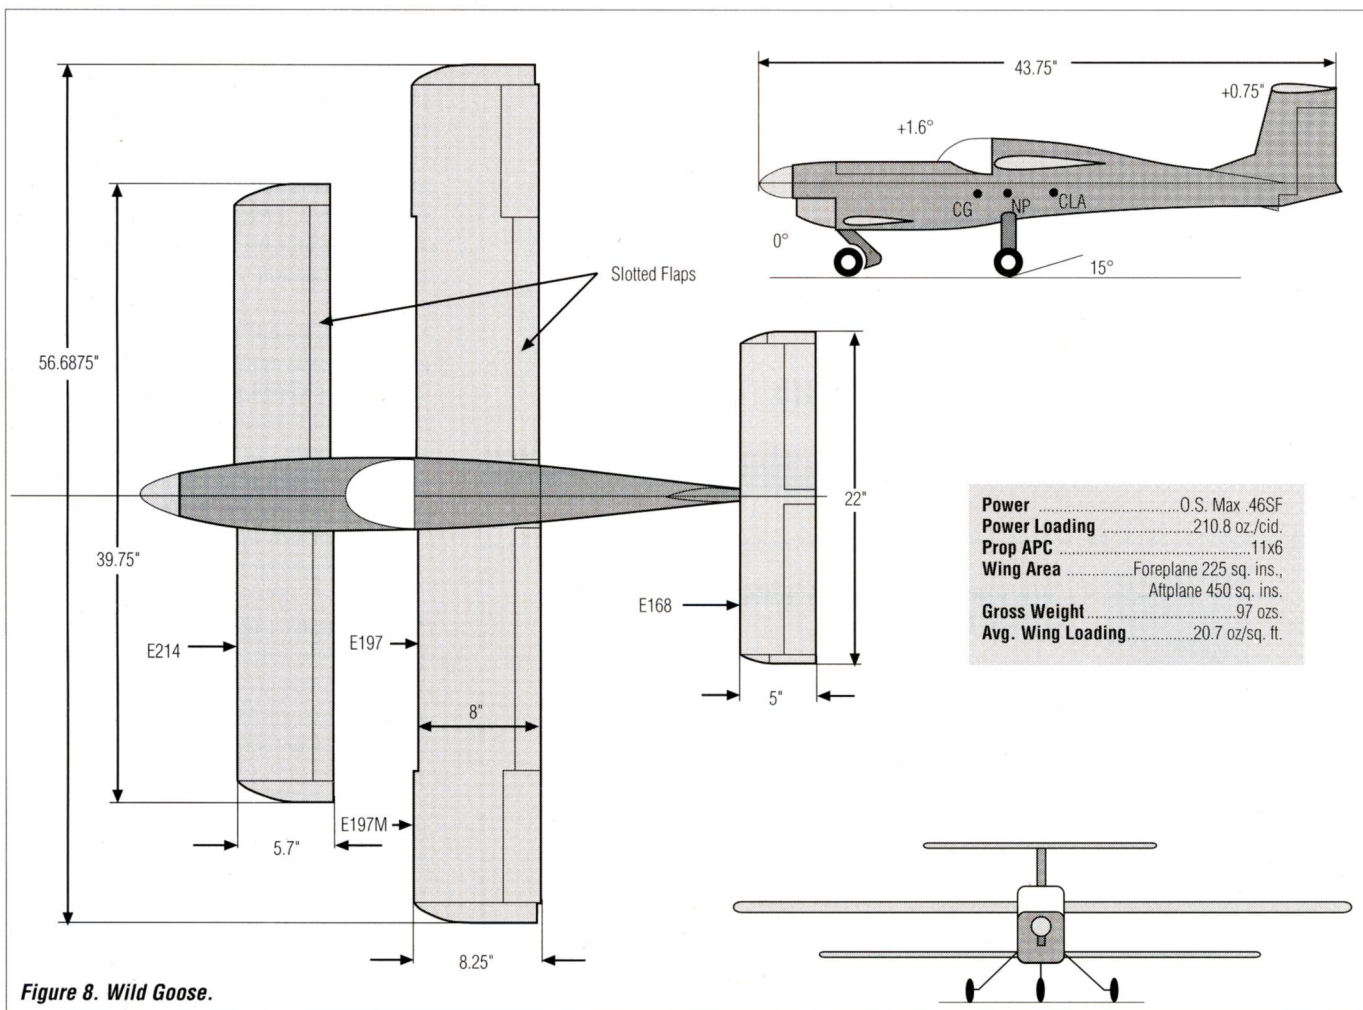

Figure 8. Wild Goose.
• **Unique behavior of the three-surface configuration.** Flight tests of the Wild Goose (Figure 8) disclosed unique behavior that relates directly to the three options out-